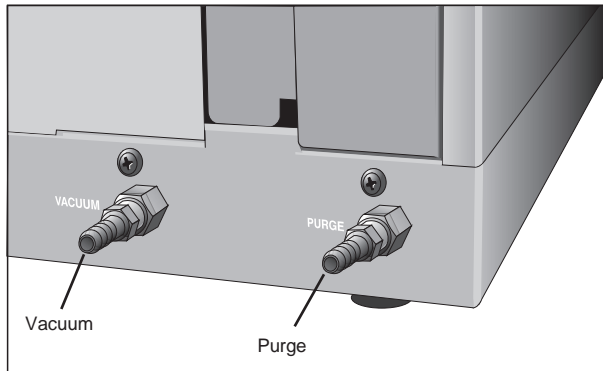

Figure 2.6
1. Locate the PURGE fitting on the right side of the 2010 instrument back (see Figure 2.6).
1. Locate the VACUUM fitting on the right side of the 2010 instrument back (see Figure 2.6).